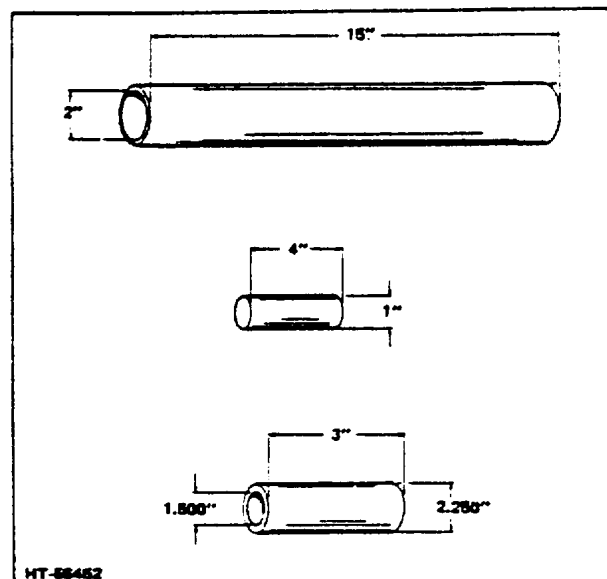

Figure 6-1. Armature Shaft Pipes and Bar
1. Place the drive end of the shaft in a pipe approximately 2" ID and at least 15" long (Fig 6-1).